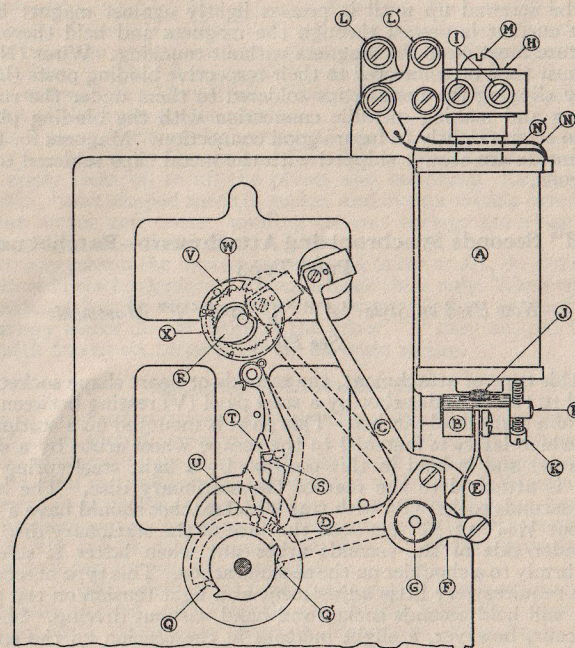

Fig. 9
The synchronizing lever (D and C) shown on Fig. 9 with heart shape seconds socket (R) and cam (Q and Q') on cannon socket are the same as in our older style movements. The synchronizing magnets and the method of operation of the synchronizing lever are different. The magnet (A) has a flat ended core. The armature (B) is made of flat iron pivoted to stud (P) fastened to synchronizing frame. The armature (B) is connected to the synchronizing lever (D and C) by a connecting rod (E) and two Pitman screws. Synchronizing lever arm (F) has an oblong slot allowing the armature to be lowered or raised $\frac{1}{16}$ ". The synchronizing lever (D and C) is placed on a steel stud (G) fastened to the front plate and held in position by a brass nut. The synchronizing magnets (A) are fastened to yoke (H). The yoke is screwed to the synchronizing frame by four iron screws (I). The holes in synchronizing frame are oblong, allowing the yoke (H) and magnets (A) to be raised or lowered $\frac{1}{16}$ ". The spring (J) on top of armature is used to throw it back quickly and also prevents armature from freezing to magnets. The screw (K) in stud (P) is used to screw up against magnet head, preventing any spring that might take place on armature stud. Binding posts (L and L') are screwed to synchronizing frame and the ends of the magnet coils are fastened thereto with metal clips.
See Fig. 9